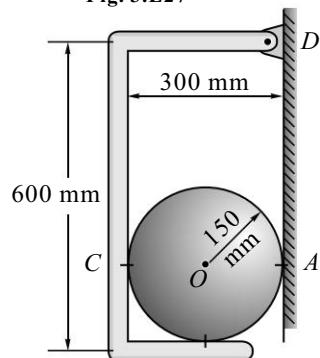

Fig. 3.E28
29. A square block of wood of mass *M* is hinged at *A* and rests on a roller at *B* as shown in Fig. 3.E29. It is pulled by means of a string attached at *D* and inclined at an angle 30° with the horizontal. Determine the force *P* required to be applied to string to just lift the block off the roller.